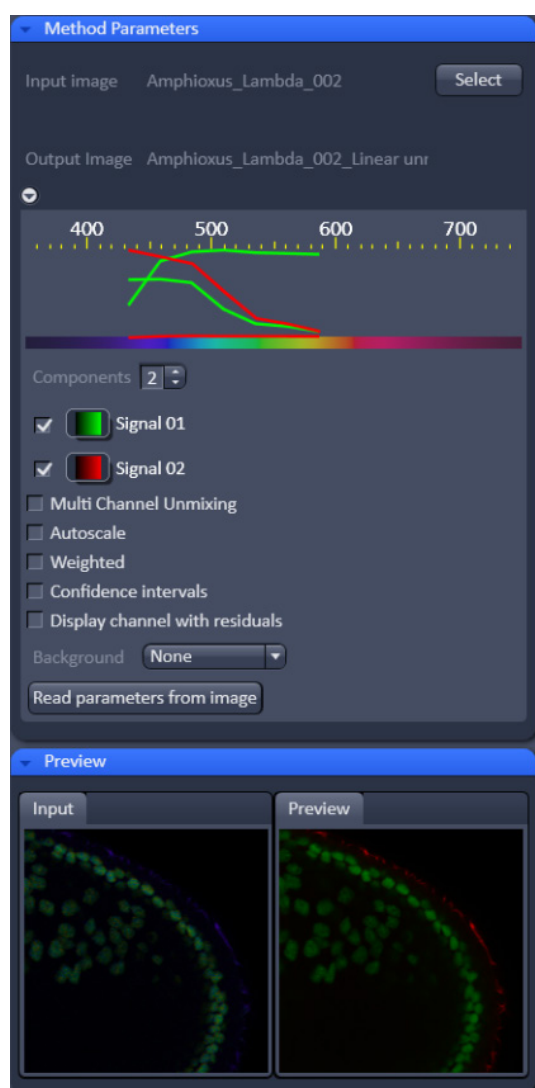

Fig. 122 Linear Unmixing panel
- In the **Linear unmixing** panel (Fig. 122), the number of spectrally distinguishable fluorescent components of the imaged sample can be selected from the **Components** selection box. The number of extractable components can not be higher than the number of acquired channels. The ZEN software is limited to a maximum of 10 components.
The following additional settings and functions are available for linear unmixing (see Fig. 122):